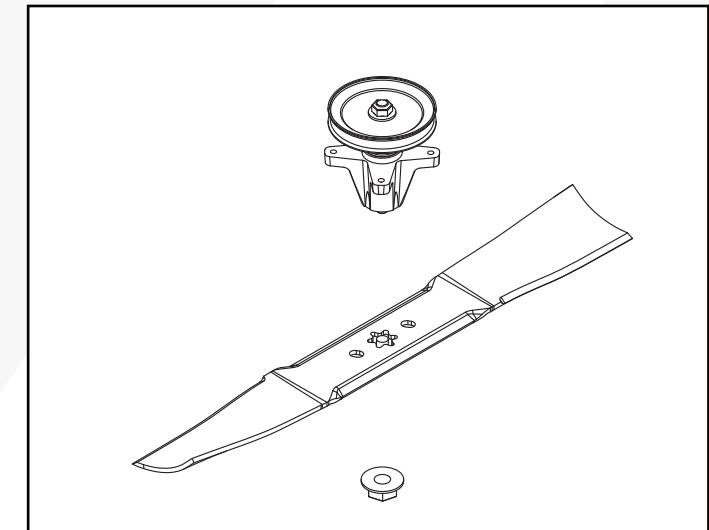

Fig. 33
5. Remove the blade nut and blade. (Fig. 33)